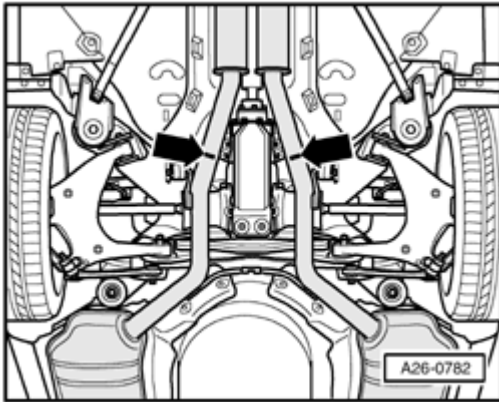

Fig. 482: Exhaust Pipes Separating Point
- Separating point **Fig. 482**